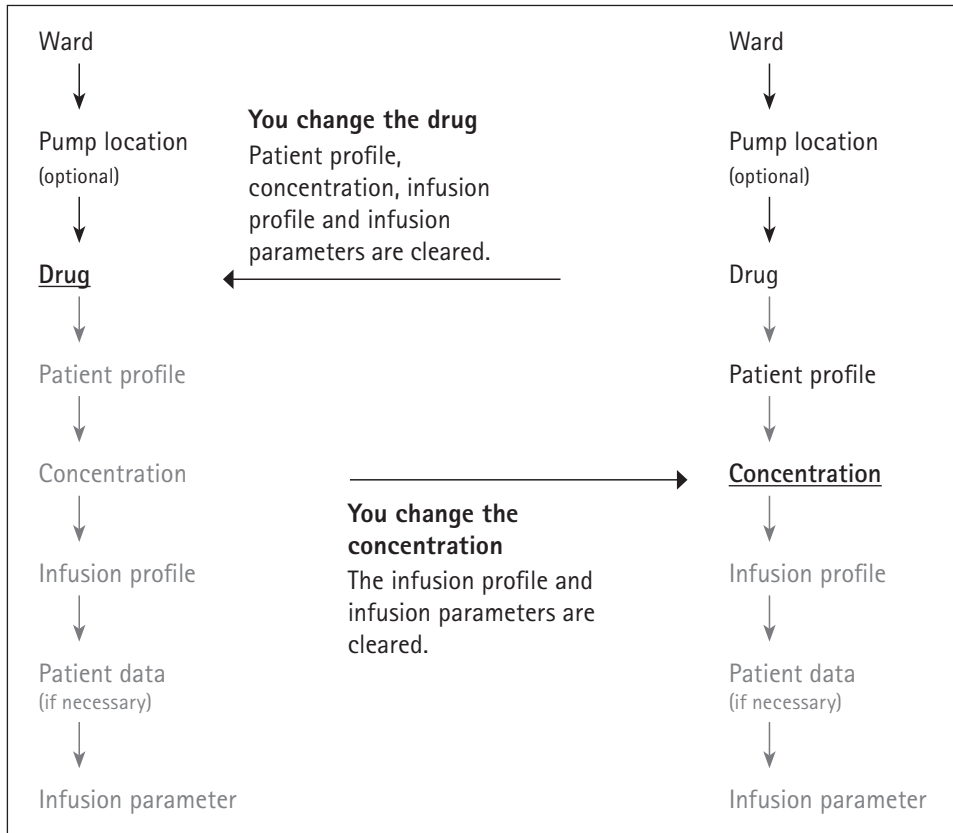

Figure 1: How changing a value affects subsequent options.
**Note:** When you select a parameter, this limits the choices in the next step. If you subsequently change a selected parameter, all the following parameters are cleared (see Figure 1 in this section). You must then select them again.